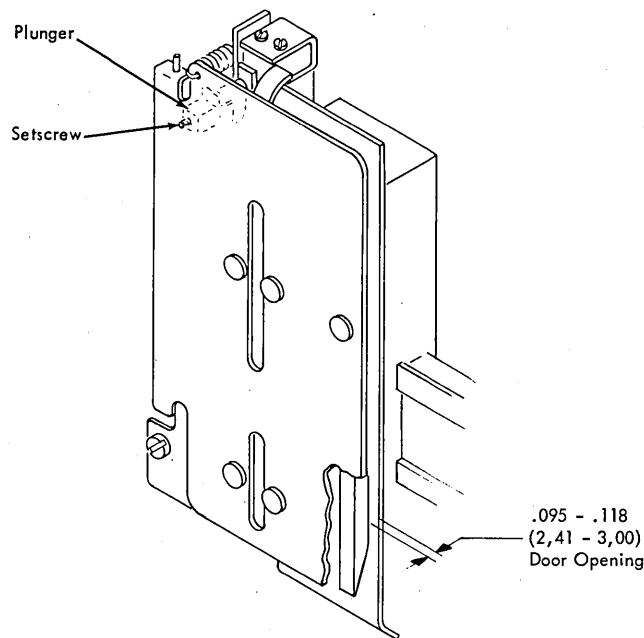

Figure 4-15. Jam-Detection Switch Adjustment
1. Adjust the jam-detection setscrew so that the jam-detection switch breaks when the door is opened a total of .095 to .118 in. (2,41 to 3,00 mm) (Figure 4-15).